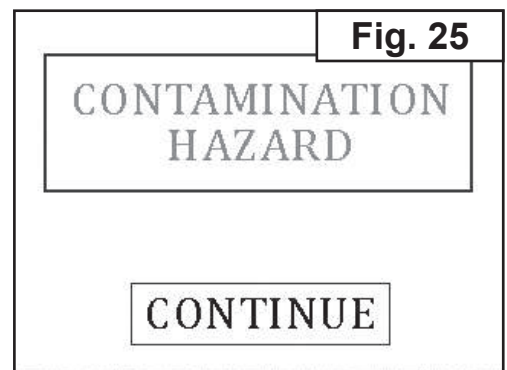

Fig. 25
5. Sound alarm and «CONTAMINATION HAZARD» (Fig. 25) message indicates high explosive concentration. In this case immediately take away detector from the object.